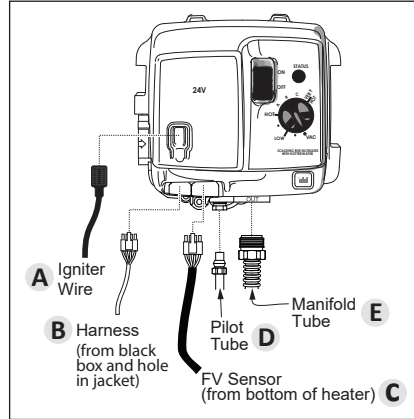

Figure 50 - Gas control valve connections.
- 6** Reconnect the manifold tubing (3/4" wrench), pilot tubing (7/16" wrench) to the gas control valve/thermostat. Also reconnect the FV sensor wires, wiring harness, and igniter wire (see Figure 50 for the correct position of each connection). Do not cross-thread or apply any thread sealant to the fittings.